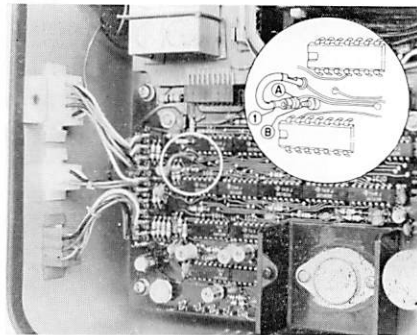

Fig. 14
8. When low speed sewing is not necessary (Fig.14)
- ① Cut off the power source.
- ② Open the cover of the control box.
- ③ Pull out the inserted ① of the figure from the pin A and insert it into the pin B.